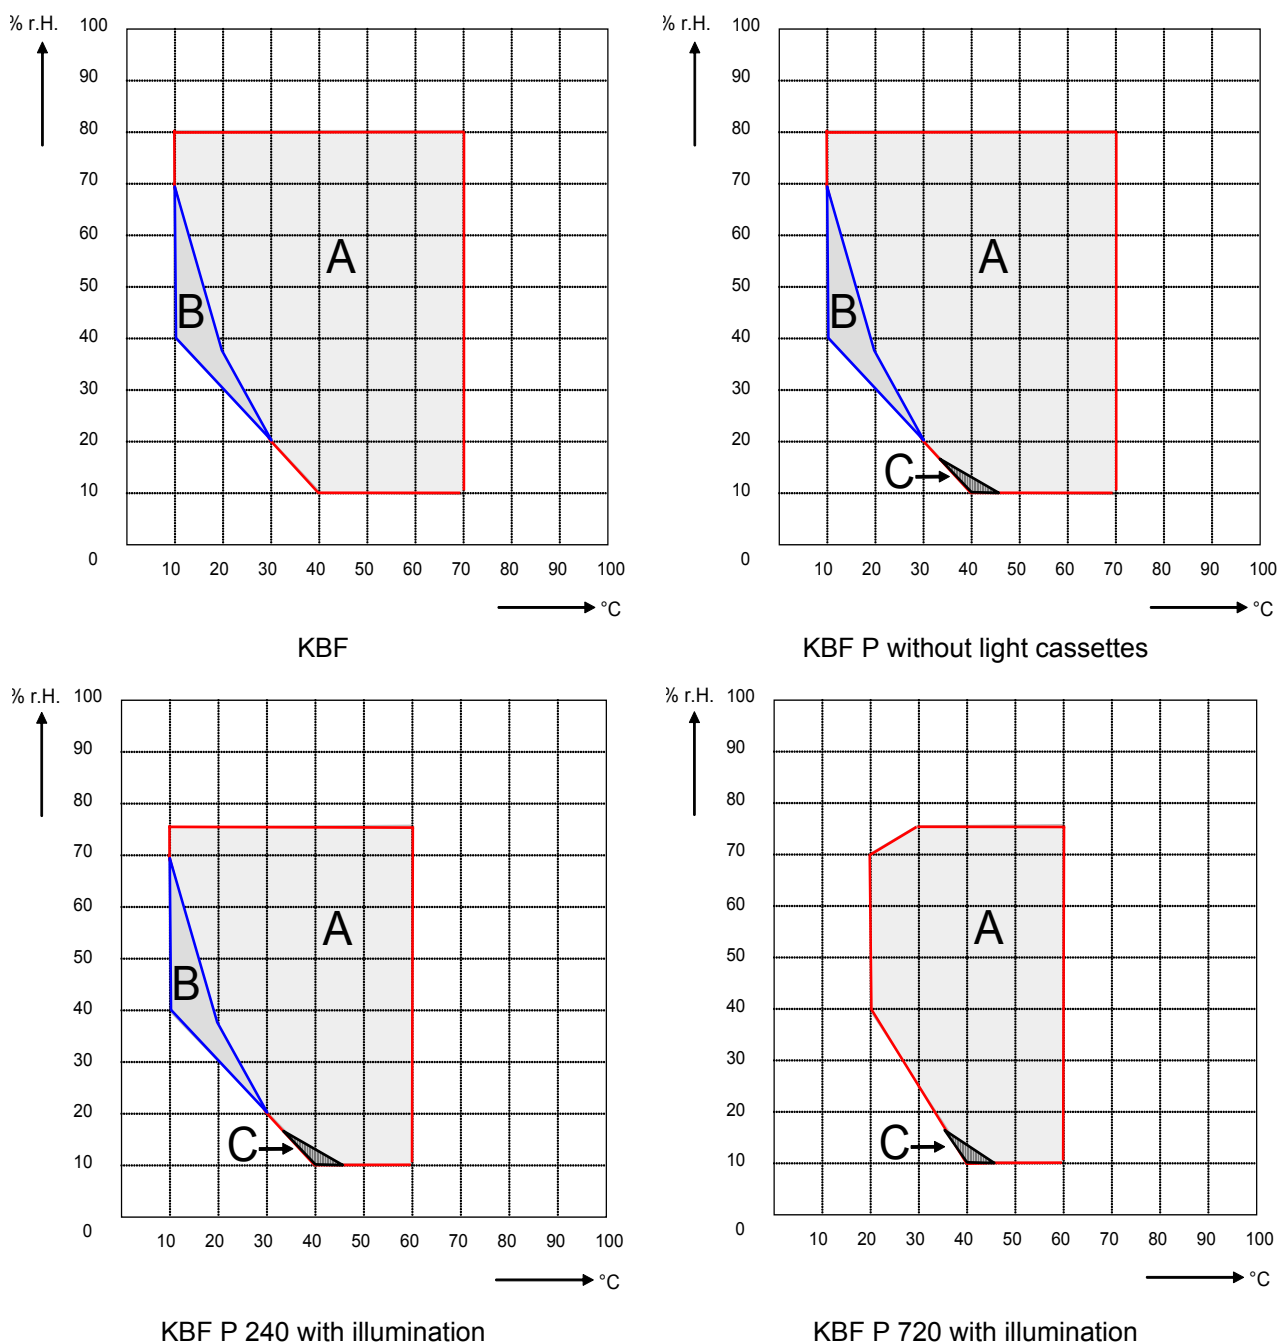

Figure 21: Temperature-Humidity diagrams
The constant climate chamber KBF / KBF P is equipped with a capacitive humidity sensor. This results in a control accuracy of up to $\pm 3\%$ r.H. of the set point. The temperature-humidity diagrams (Figure 21) show the possible working ranges for humidity.
The preset temperature and humidity values should be situated within the optimum range (hatched range in Figure 21). Only within this area will the unit not be exposed to excessive moisture due to condensation.
When humidity switch "ON / OFF" (4) (located on the right lateral control panel) is "ON", the constant climate chamber KBF dehumidifies as needed in order to reach the entered humidity set-point" inside the control range of temperature and relative humidity (Figure 21).